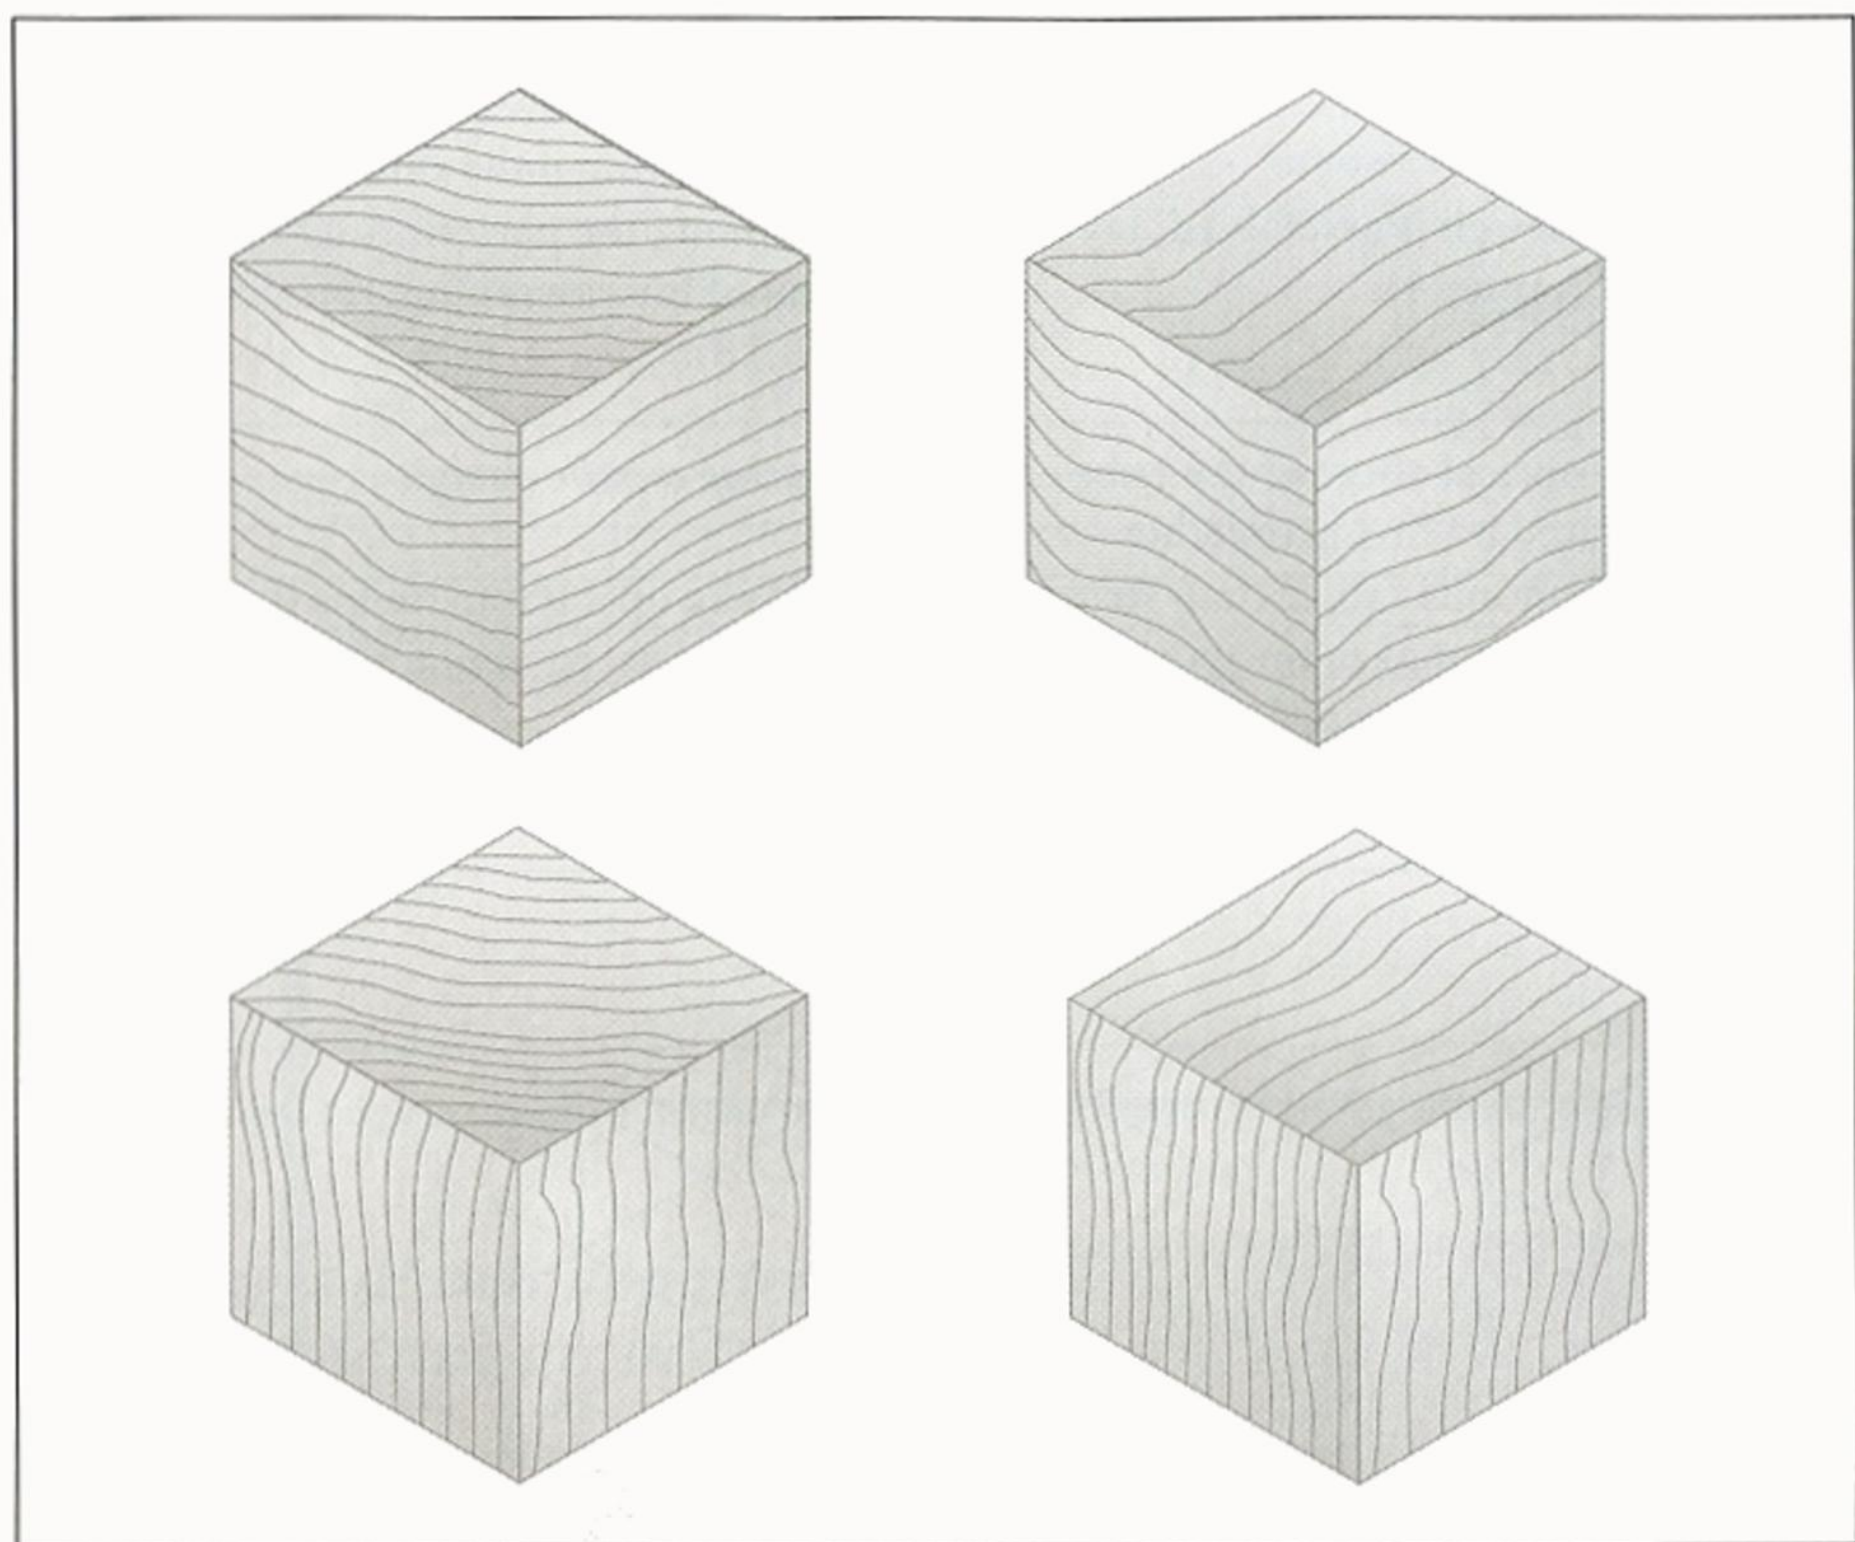

Fig 8.19 Different grain configurations can be used to create a variety of effects.
- 2 Before cutting the diamonds, work out the grain direction (*see* Fig 8.15). Figure 8.19 shows cubes constructed with variations in the grain direction.